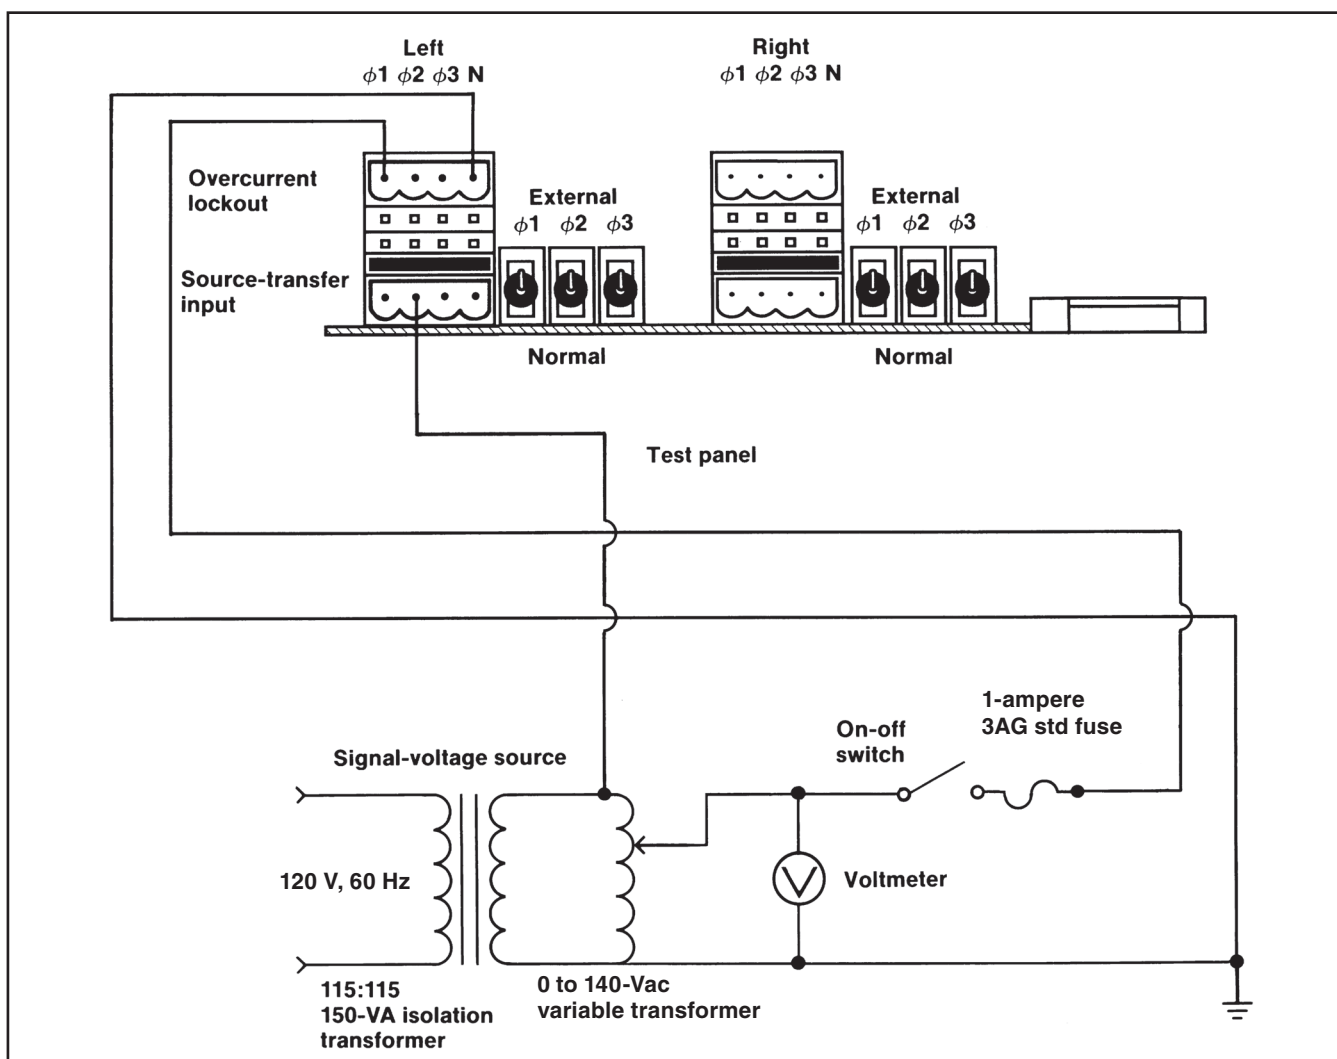

Figure 7. An overcurrent-lockout test-circuit connection diagram for source-transfer pad-mounted gear applications.
STEP 25. Make up the test circuit connections to Phase 1 and neutral on the left overcurrent-lockout connector and to Phase 2 on the left source-transfer input connector as shown in Figure 7 on page 18.